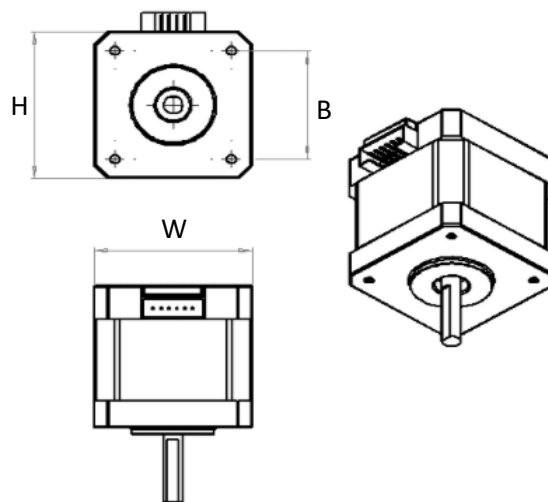

Figure 1 - NEMA Stepper Dimensions
- Measure the width (W), and height (H), bolt spacing (B) dimensions of the object as shown in Figure 1. Choose two additional features on the object to measure for a total of five separate measured features on the object.